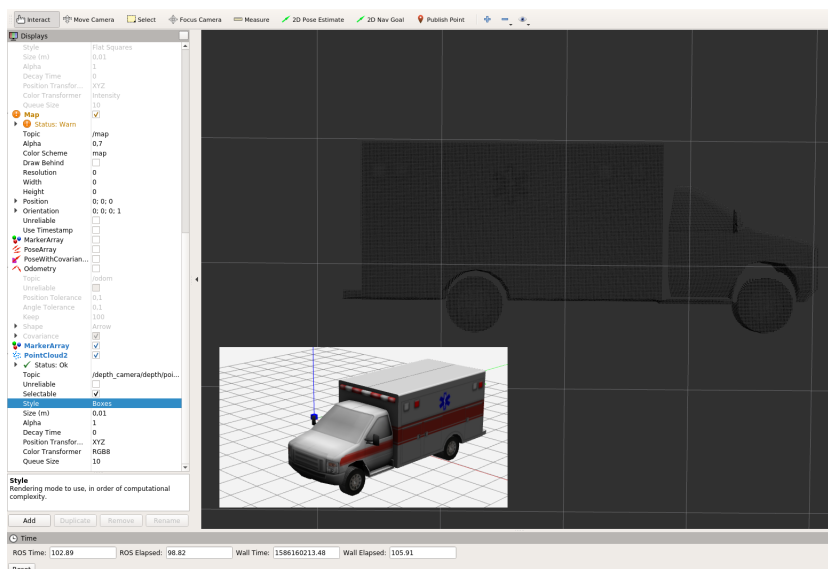

Figure 9.4: PCL displayed in RViz
- `/depth_camera/depth/points`: Combining the disparity image and its calibration is possible to generate 3d spatial information for each pixel of the colored image. This information is encoded into a `sensor_msgs/PointCloud2` data type. Fig. 9.4 shows the output of point-cloud data generated by the depth sensor after included an ambulance in the gazebo scene.